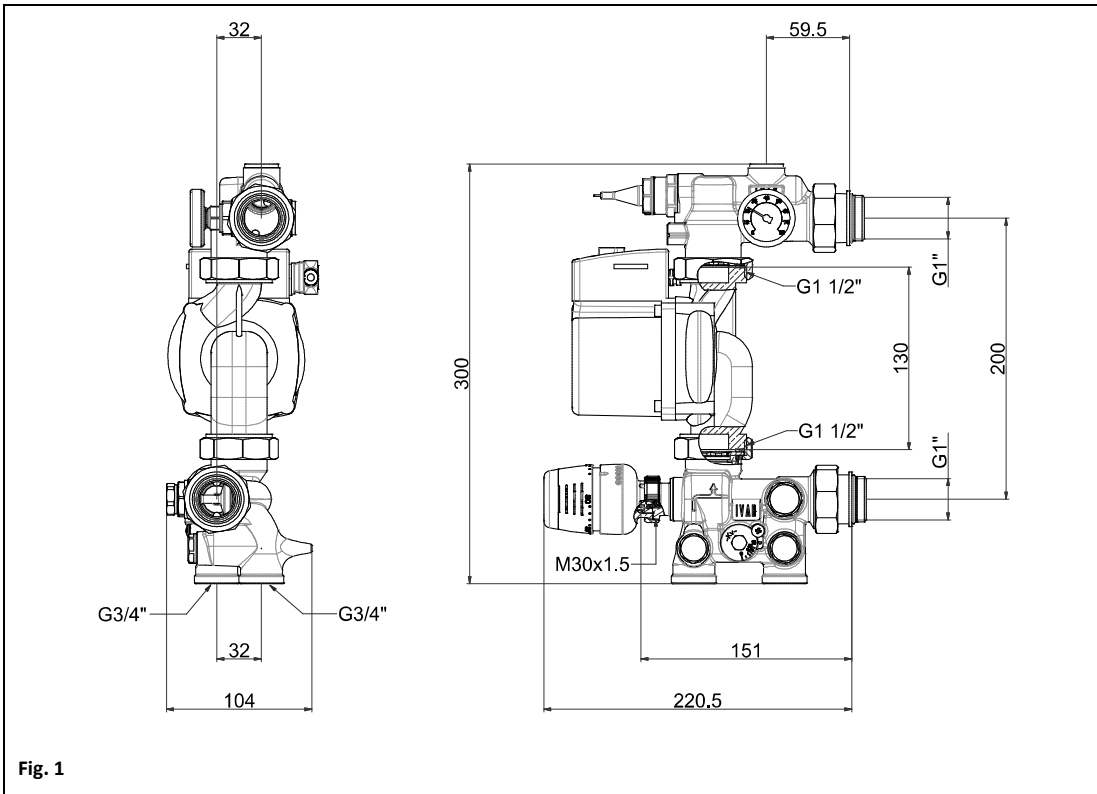
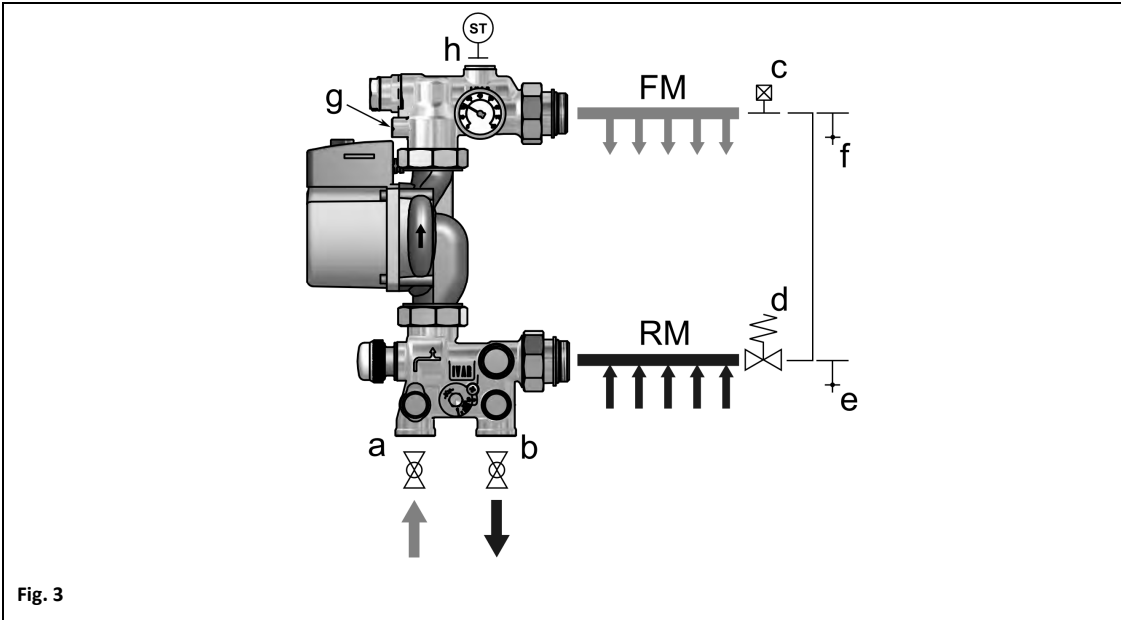

Fig. 1
Fig. 3
Please refer to Fig. 1 for size and threads. Fig. 3 shows a typical installation outline. Pay attention to correctly connect the pipes to the system: boiler flow pipe must be connected to **UFH mixing kit** inlet in correspondence of connection (a), while the boiler return pipe must be connected to **UFH mixing kit** outlet in correspondence of connection (b). It is recommended that ball valves are installed between **UFH mixing kit** module and primary piping to allow easy interception during filling and maintenance operations.
Manifold connection fittings are suitable for 1" manifolds. Flow manifold (FM) must be installed on top, while return manifold (RM) must be connected to the lower outtake. It is recommended that an automatic air vent valve (c), a differential overpressure by-pass (d), a fill tap (e) and a discharge tap (f) are installed as outlined in Fig. 3.
Filling operations must be performed for each underfloor circuit separately. With reference to Fig. 3, close the primary valves (a) and (b), and the pump interception valve (g). Perform the following operations:
A safety thermostat should be installed on the flow branch to turn off the circulation through the radiant system when flow temperature exceeds a threshold value. The thermostat can be of contact-type or with immersed sensing element. In the first case, it is recommended that it is installed in contact with the flow (upper) manifold. In the second case, the sensing element should be immersed into the flow in a representative position. Thermo-Floor proposes contact safety thermostat with adjustable setting 20-90 °C (68-194 °F) art. AC 614 (see Fig. 7a) and 60 °C (140 °F) fixed-setting thermostat with immersed sensing element art. AC 634 (see Fig. 7b). The latter features ½" M soft seal connection which makes it suitable to be installed directly to pocket (h) in Fig. 3.
High-temperature manifolds can be installed upstream the mixing valve if a fraction of incoming hot flow must be sent to high-temperature heating bodies such as radiators or towel rails. These manifolds must be connected to outtakes (a) and (b) in Fig. 3. Thermo-Floor provide two models of high temperature manifold kits: